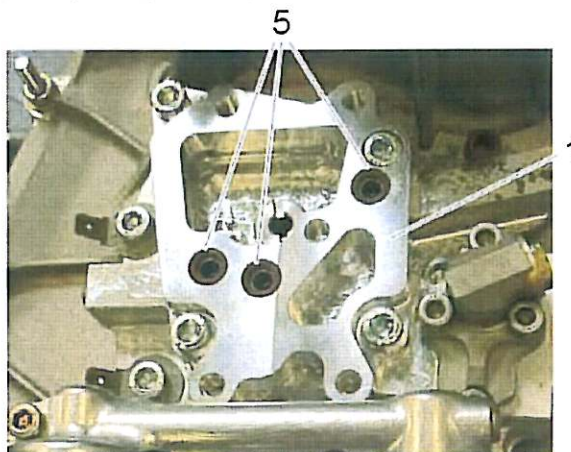

Figure 12
8. Fit three O-rings (item 5) into the designated places at the adaptor plate (item 1). See Figure 12.